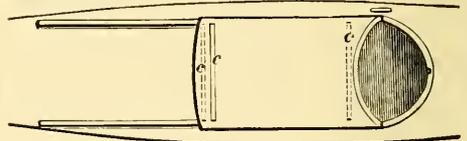

FIG. 242.
*Canoe Hatch.*—The double lines *c* are carlines, supposed to be seen through the hatch which is screwed to the two dotted ones (Fig. 242); the ends of the latter are made to slide in a groove in the coamings. The middle carline is fastened to the deck and prevents the latter sliding too far, and stops the water